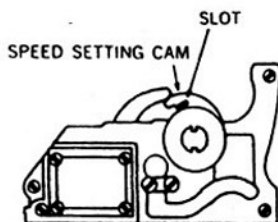

Figure 4-10. Speed Setting Cam for 1/1000-second Adjustment.
- (a) *Entire slit too wide.* Bend the speed setting cam (fig. 4-10) so as to widen the slot.